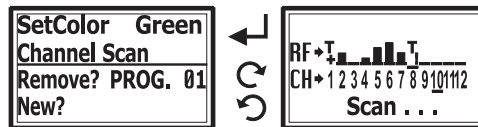

Fig. 21
(M) Channel Scan function, Fig. 21: